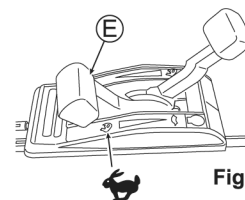

Fig. 10
3. Set Throttle lever (E) to "Auto choke". (See Fig. 10)